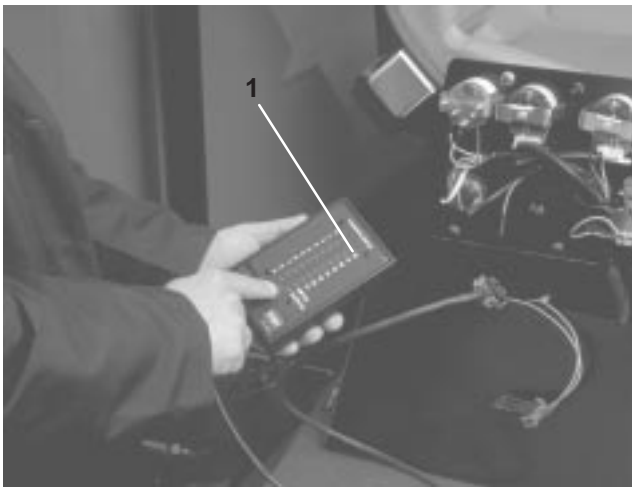

Figure 32
3. Connect the Diagnostic ACE display connector to the harness connector (Fig. 32). Make sure correct overlay decal is positioned on Diagnostic ACE display.